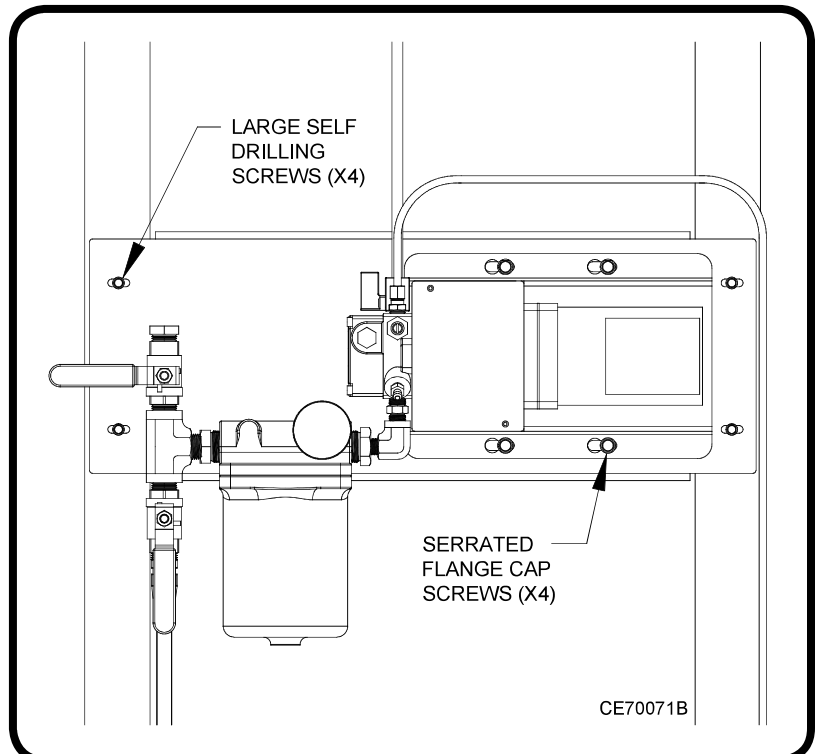

Figure 3: Mounting the Pump Assembly
- (1) Refer to Figure 3.
- (2) Use four large self-drilling screws to secure the pump mounting plate to the 2" X 2" vertical posts. It is recommended to place the pump directly above the drain pan. This becomes helpful when the filter is being cleaned.
- (3) Use four serrated flange cap screws and nuts to secure the pump to the mounting plate.
- (4) Refer to the furnace Owner's Manual for instructions on connecting the oil lines and wiring the metering pump to the furnace.